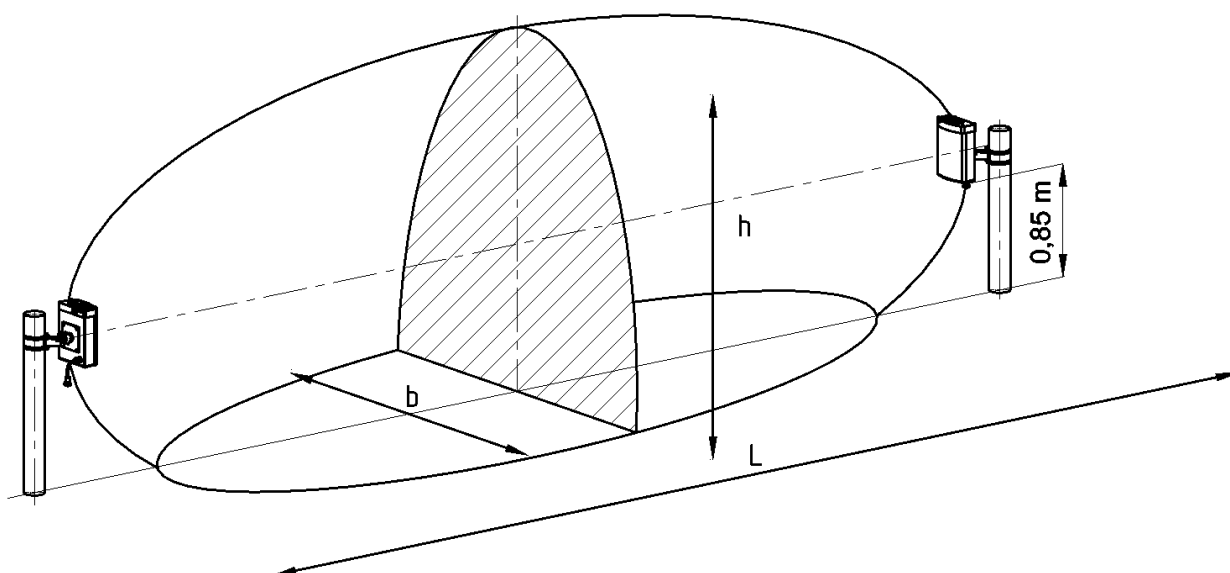

Fig.1.1. Detection zone
The configuration and the dimensions of the detection zone are given in fig.1.1. and table 1.1
1.2.3. In Fig.1.1 and Table 1.1 the height (h) and the width (b) of the detection zone are given for the middle of the sector. Moving towards the receiver or transmitter these dimensions decrease evenly, given the geometry of positioning the receiver and transmitter.